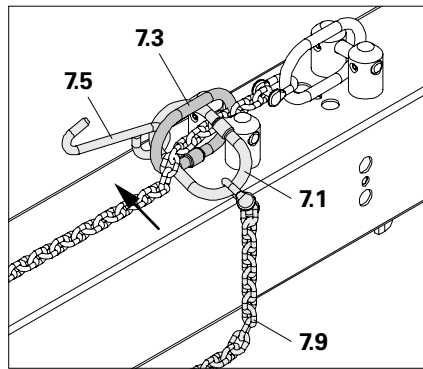

Fig. A3.09
4. Insert hook (7.5) and ring 1 (7.1) through ring 3 (7.3) and pull through. (Fig. A3.09)